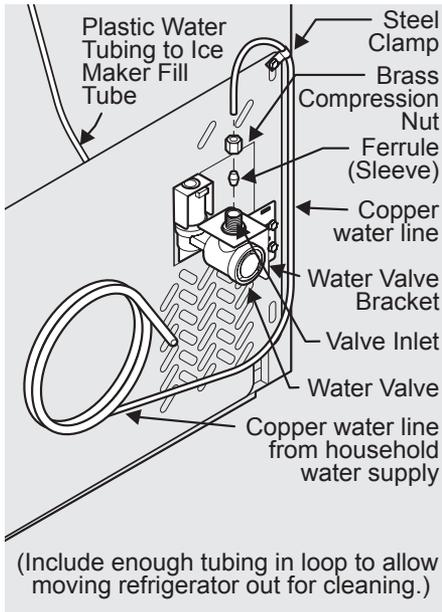

Figure 1
4. If you use copper tubing - Slide brass compression nut, then ferrule (sleeve) onto water supply line. Push water supply line into water valve inlet as far as it will go (¼ inch/6.4 mm). Slide ferrule (sleeve) into valve inlet and finger tighten compression nut onto valve. Tighten another half turn with a wrench; DO NOT over tighten. See Figure 1.